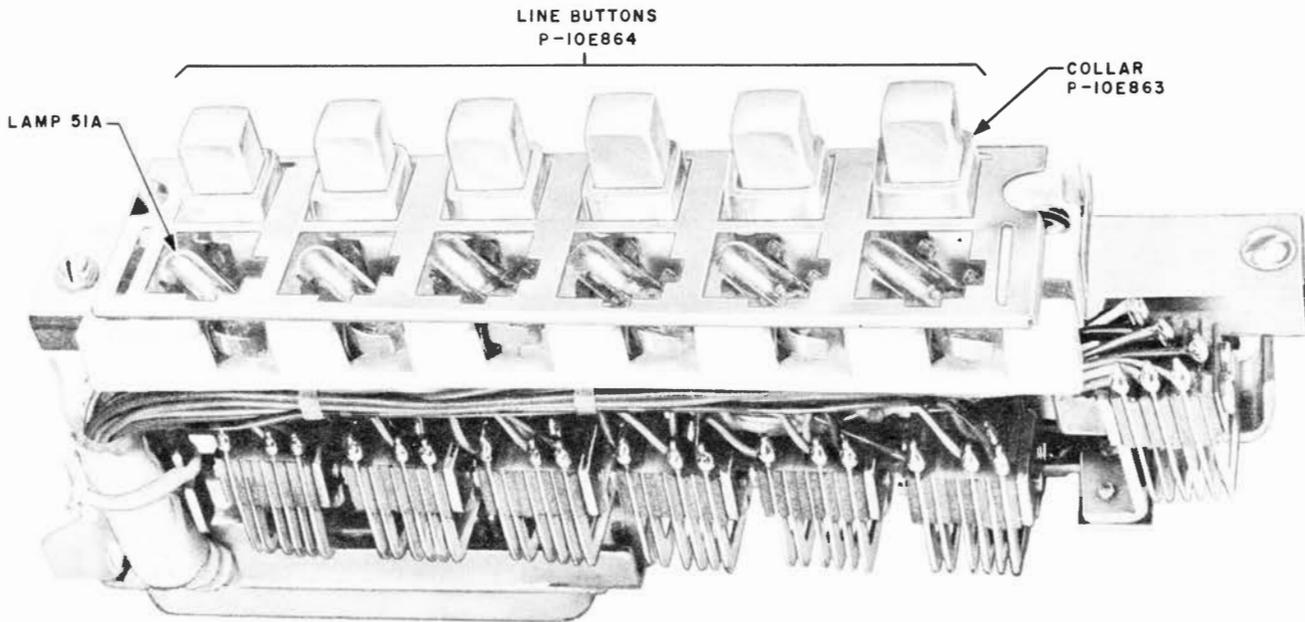

Fig. 3 - 598A Key
3.04 The 598A key module (see Fig. 3) consists of six convertible locking-type buttons and lamps for illuminating each button and its adjacent designation area. The buttons may be converted from locking to nonlocking for signal use by removing the P-10E837 screws as necessary. (When keys are converted to nonlocking, use the P-11E977 insulating details to insulate the two contacts adjacent to the key plunger.) All buttons are interlocked mechanically so that operation of a pickup button will release any previously operated button. A chaining switch consisting of